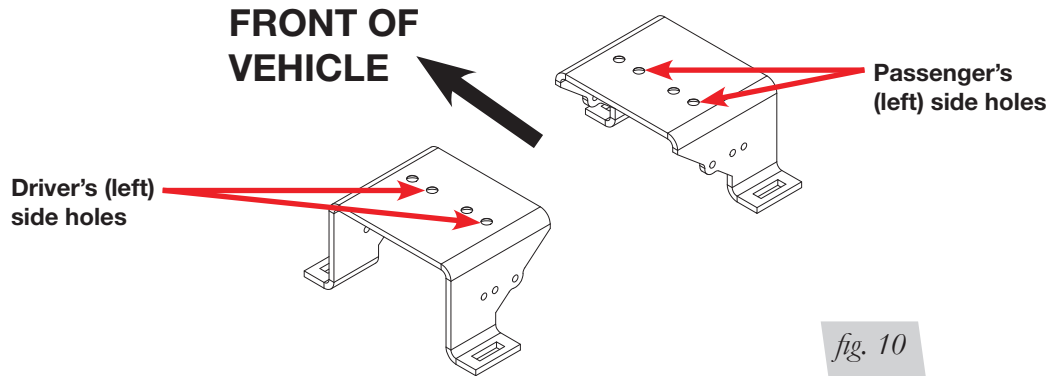

fig. 10
3. Install the upper brackets (D or E) onto the top of the air springs using the 3/8" flat-head bolts (F) (Fig. 10). Tighten securely.
4. To determine which holes in the lower bracket to use, set them next to each other with the angled sections pointing toward each other. Use the first and third holes on each bracket to attach the air springs. This will make them into left and right assemblies. Attach the lower bracket onto the air spring with two 3/8" flat-head bolts (F) and torque to no more than 20 lb.-ft. (27Nm).